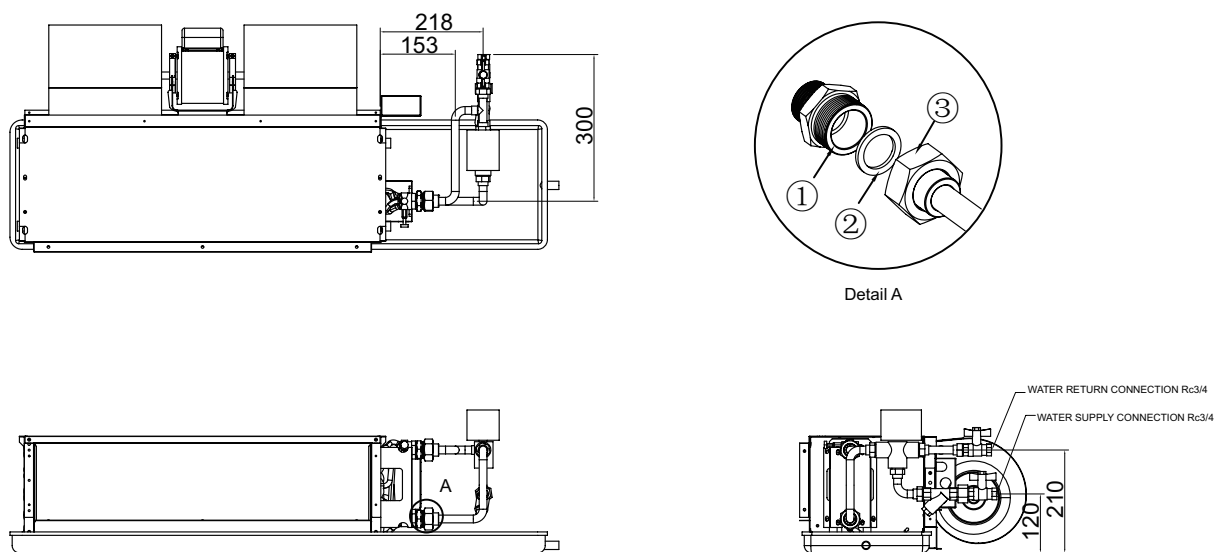

Figure 4 3-Way Valve
2. Install the 3-way valve kit as indicated in the pictures of figure 4. (For right pipe connection unit.) Detail is as same as 2-way valve unit.